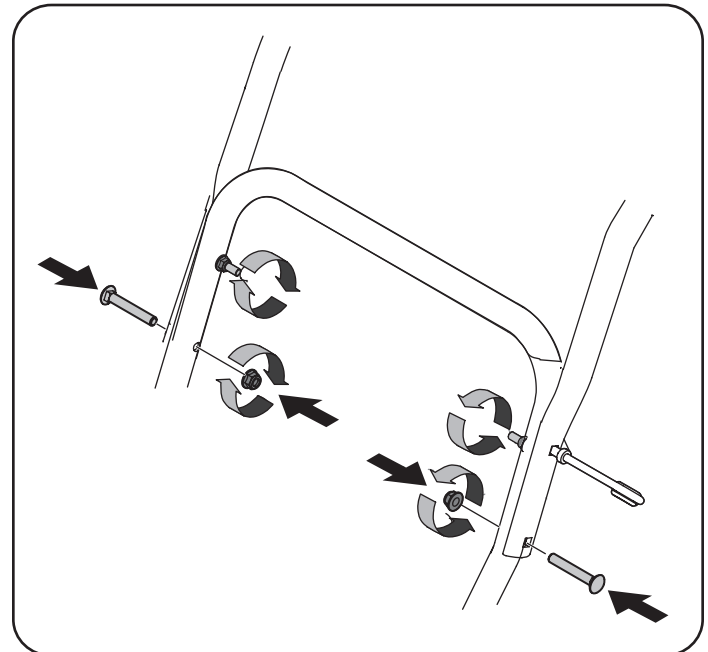

Figure 2
- d. Attach the two carriage screws and lock nuts removed in Step a. Finish securing the handle by tightening the top two lock nuts loosened in Step a. See Figure 2. Remove and discard any rubber bands, if present. They are for packaging purposes only.